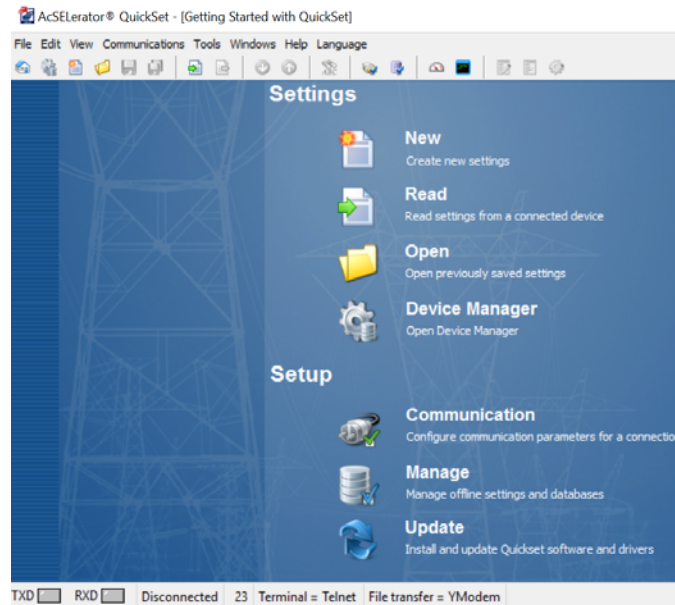
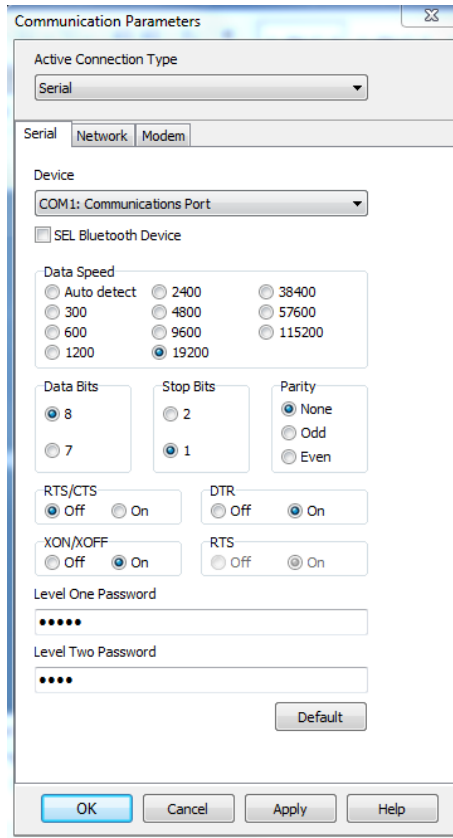

Figure 26: QuickSet Main Window
Figure 27: SEL-700G Communication Parameters Window
5. On the QuickSet main window (Figure 26), open the Communication Parameters window (**Communications, Parameters**) (Figure 27) to define and create a communication link with the 71. Enter the following information for a Serial Active Connection Type: